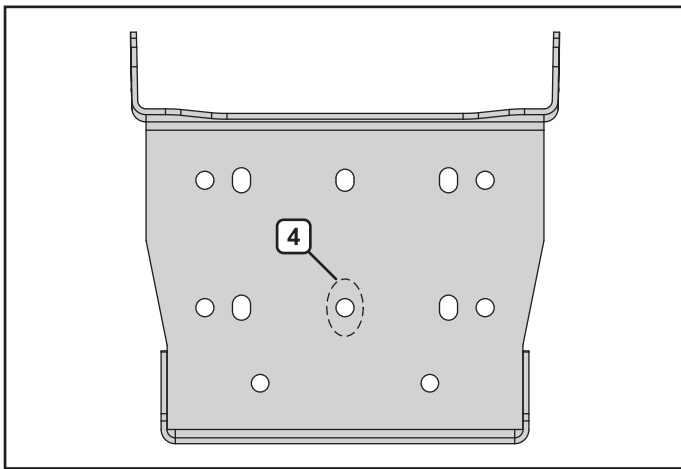
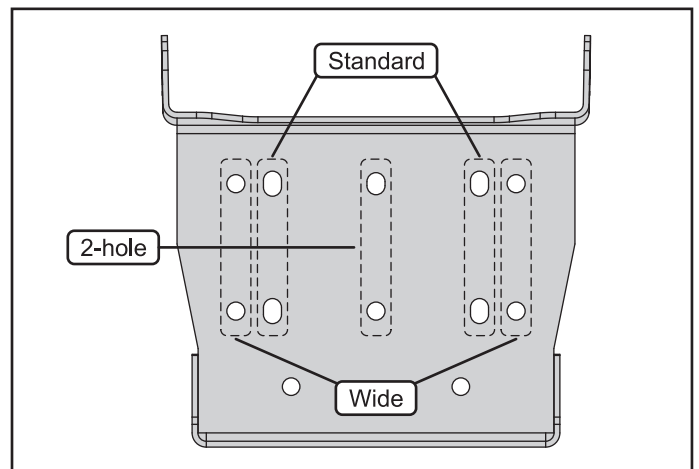

Figure 13. 2-hole winch drill location
Figure 14. Winch hole configurations
**2-hole winches:** Drill holes (4) as shown in figure 13.
**Note:** Ensure existing holes in the front bumper align with standard winch front holes in winch mount (A) before drilling.
6. Install your winch into winch mount (A) with hardware provided with your winch. Ensure the front hardware goes through the holes in the front bumper and winch mount. See figures 14 and 15.